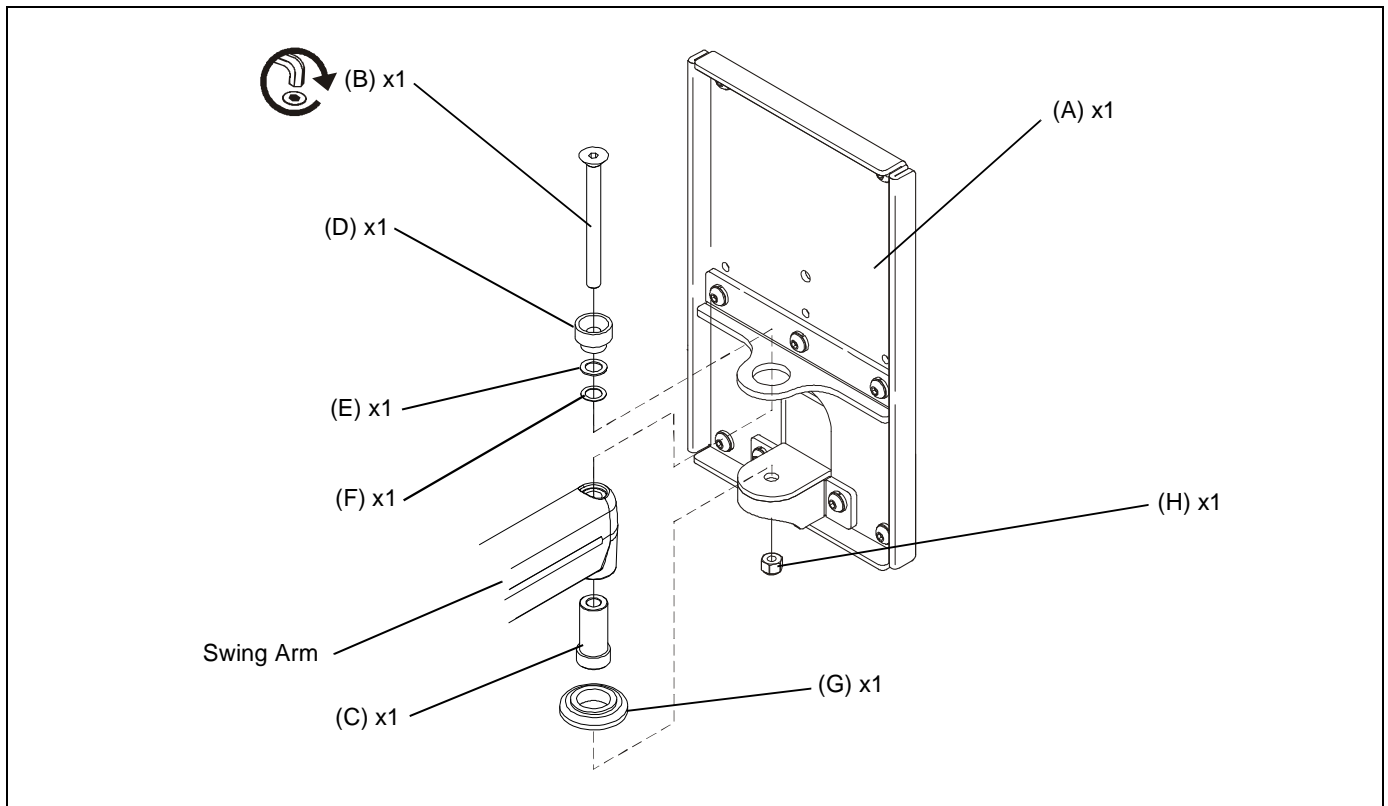

Figure 3
1. Orient swing arm so that it is positioned in front of mounting tabs on wall plate (A). (See Figure 3)
2. Slide inner stud (C) up into bottom of swing arm.
3. Place spacer (G) up against bottom of swing arm and hold spacer (G) and inner stud (C) in place. (See Figure 3)
4. Slide swingarm with inner stud (C) and spacer (G) between mounting tabs in wall plate (A). (See Figure 3)
5. Slide stepped spacer (D), spacer (E) and washer (F) onto flat head cap screw (B). (See Figure 3)
6. Slide flat head cap screw (B) with spacers (E) and washer (F) down into swing arm and through inner stud (C) and lower spacer (G). (See Figure 3)
7. Secure swing arm to mount using Nylock nut (H). (See Figure 3)